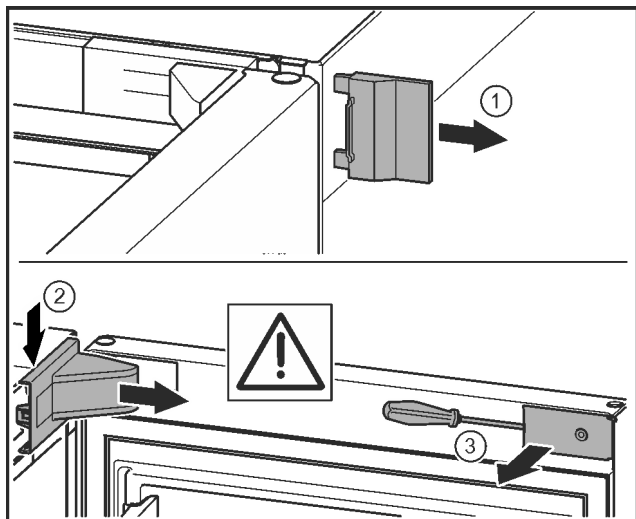

Fig. 11 *
- ▶ Remove the outer cover. Fig. 11 (1) *
- ▶ Disengage and release the bearing bracket cover. Remove the bearing bracket cover. Fig. 11 (2) *
- ▶ Unlatch the panel with a slotted screwdriver and swivel it to one side. Fig. 11 (3) *